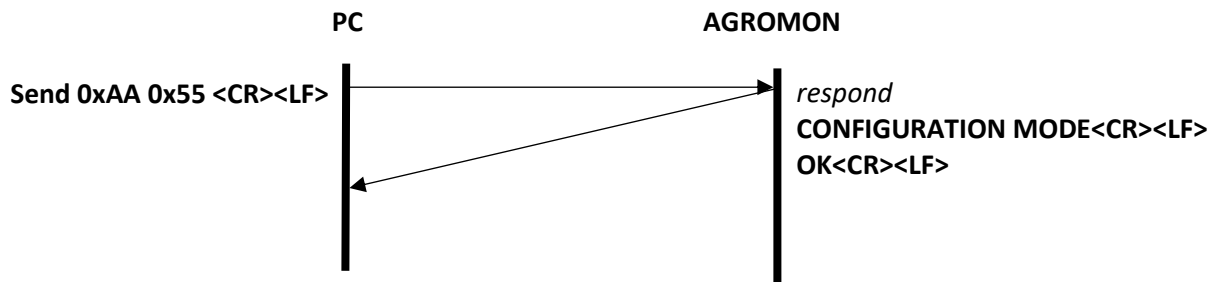

Figure 2. Sequence Diagram – Entering Configuration Mode
Upon applying power to Agromon, user has **10 second** to make connection with Agromon for **configuration mode** else upon time expiration Agromon will enter **normal mode**. To enter configuration mode simple send Hex AA 55 follows by Carriage Return (CR) and Line Feed (LF), and Agromon will respond with "CONFIGURATION MODE" and follows by "OK". Figure 2 shows the sequence diagram for entering configuration mode.